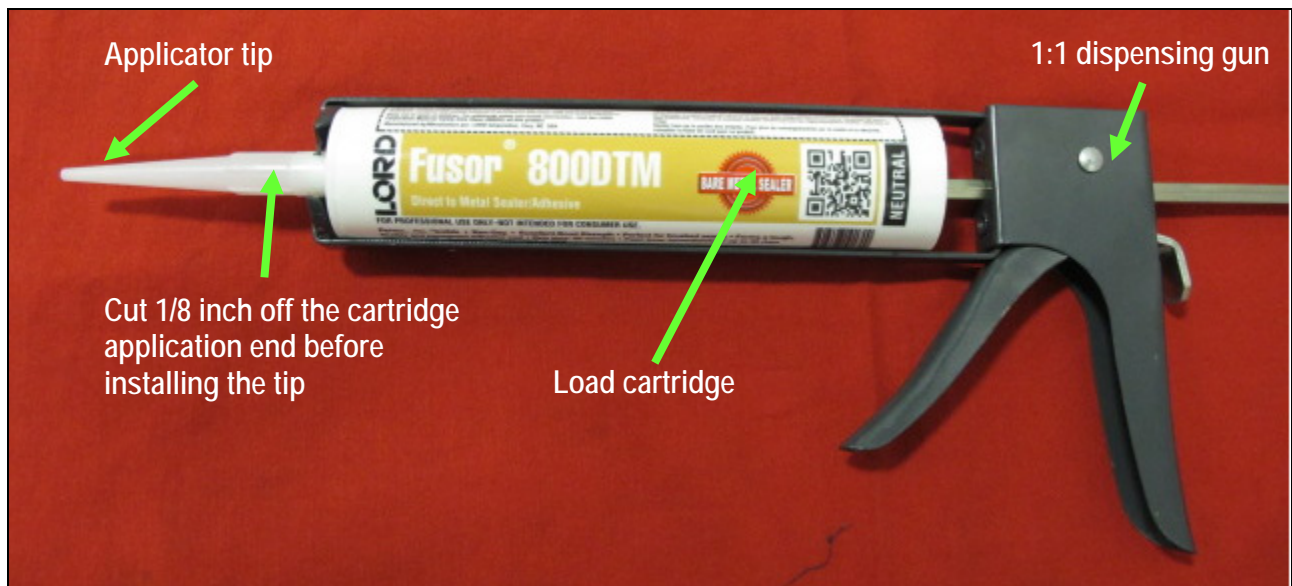

Figure 10
- a. Load the cartridge into a 1:1 dispensing gun (see Figure 10).